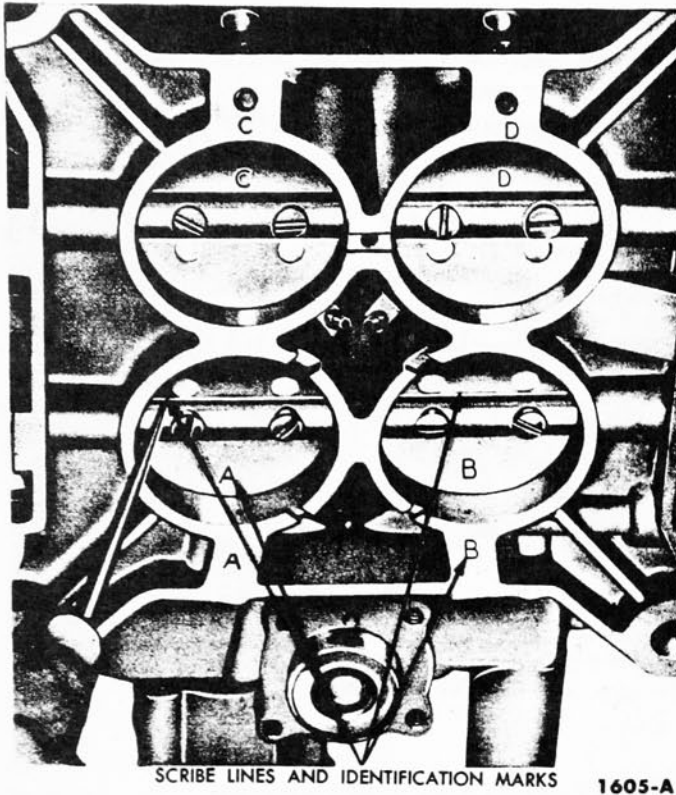

FIG. 15—Throttle Plate Removal
11. If it is necessary to remove the throttle plates, lightly scribe the primary and secondary throttle plates along the throttle shafts and mark each plate and its corresponding bore with a number or letter for proper installation (Fig. 15).